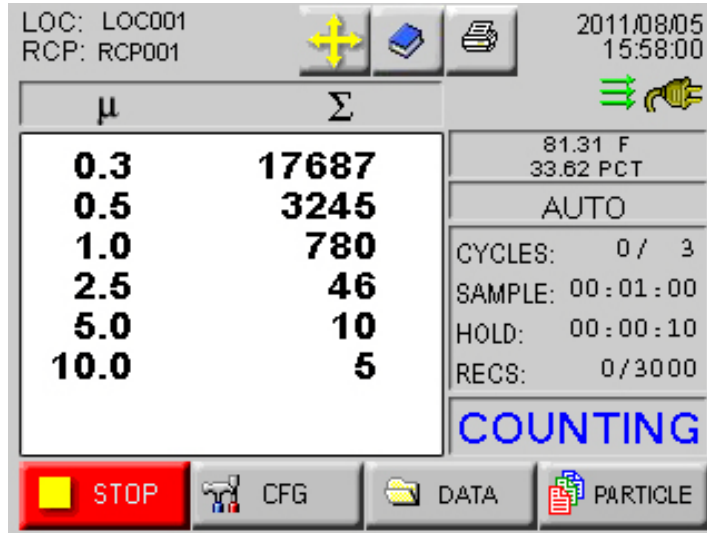

Figure 4-6 Main Screen, Counting mode
- **START/STOP:** Press START button on the screen to start counting. When sampling, the instrument will display "COUNTING" in the lower right portion of the screen as shown in Figure 4-6.